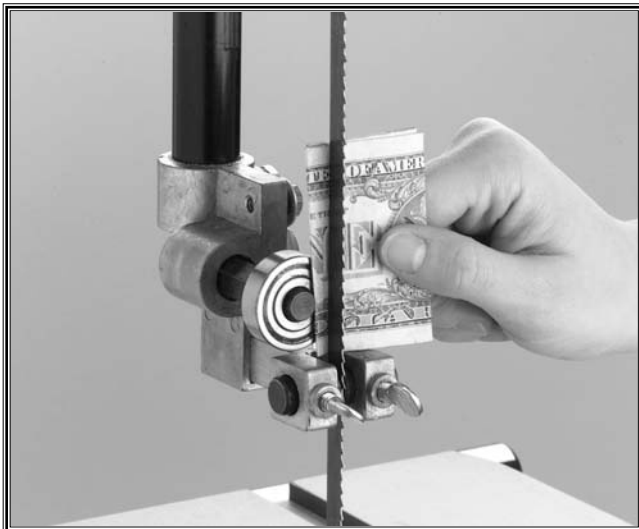

Figure 38. Dollar folded twice for bearings.
4. Begin with the upper rear support bearing. Set the dollar bill (or feeler gauge) against the back of the blade and slide the bearing forward so it pinches the dollar between the blade as shown in **Figure 38**.